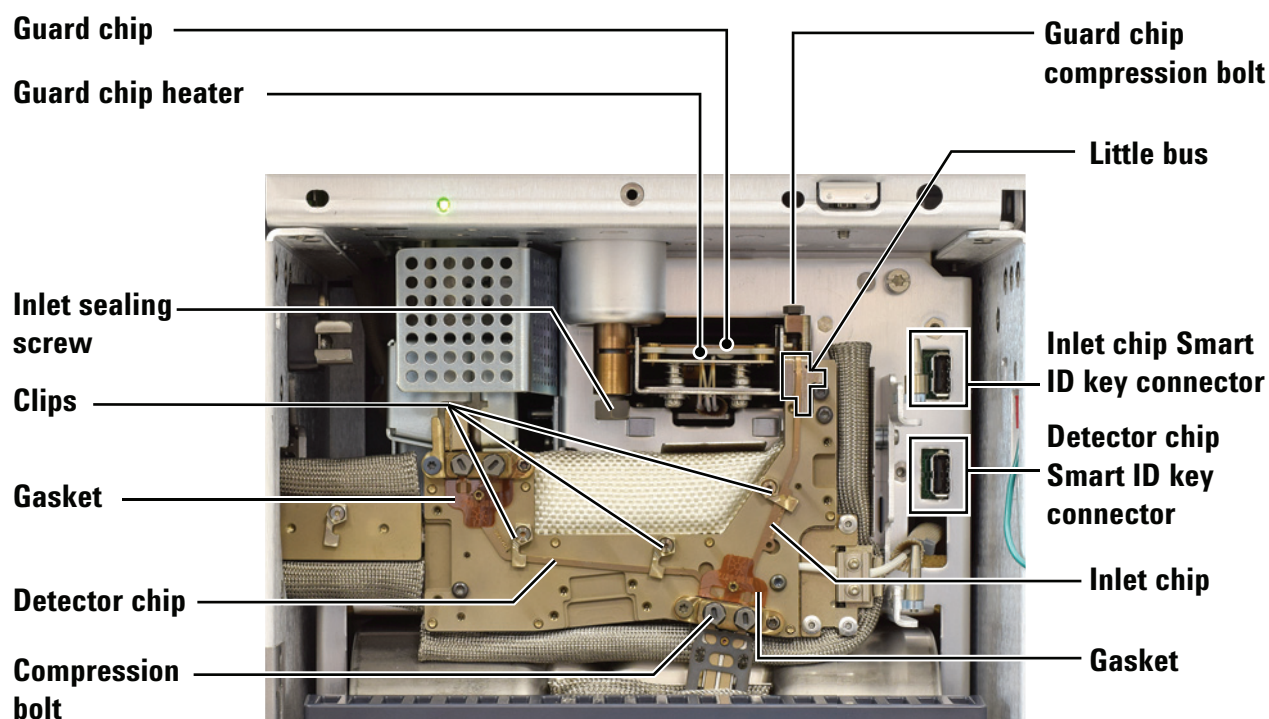

Figure 10 Intuvo GC bus components (split/splitless inlet with D1 chip shown)
- d Use the torque driver to open the clips that secure the inlet chip to the bus. See Figure 10.
- e Orient the new inlet chip. Slide the bottom connector of the inlet chip behind the Smart ID connector wire for the detector chip, and insert the bottom connector into the column fitting on the bus. Then, insert the top connector into the pocket in the little bus. See Figure 10.
- i Insert the inlet chip Smart ID key into the lower socket to the right of the bus. See Figure 10.